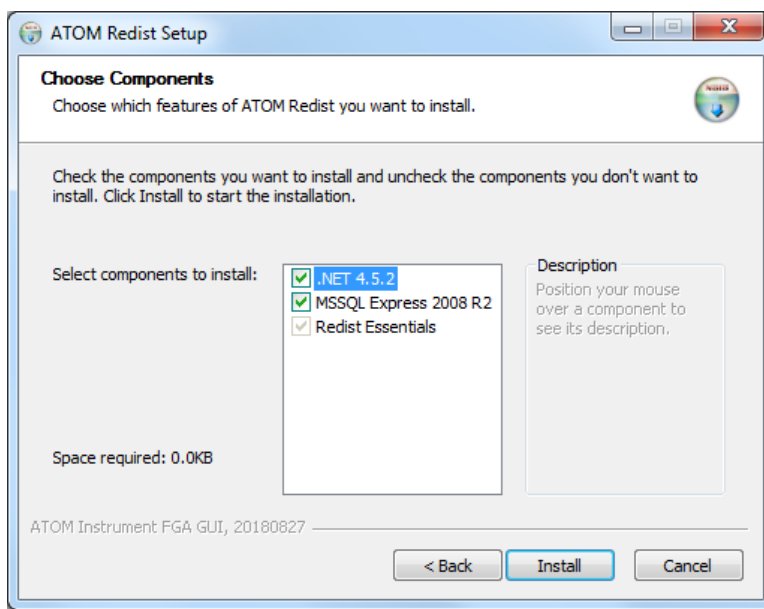

Figure 3.6
3. Leave all options “checked”, and click **Install** (Figure 3.6).